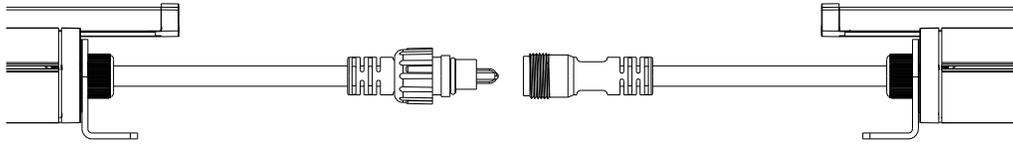

FIG 2.
2. Connect all of the fixtures in your run using the eco-cove connectors attached to each fixture (FIG 2)